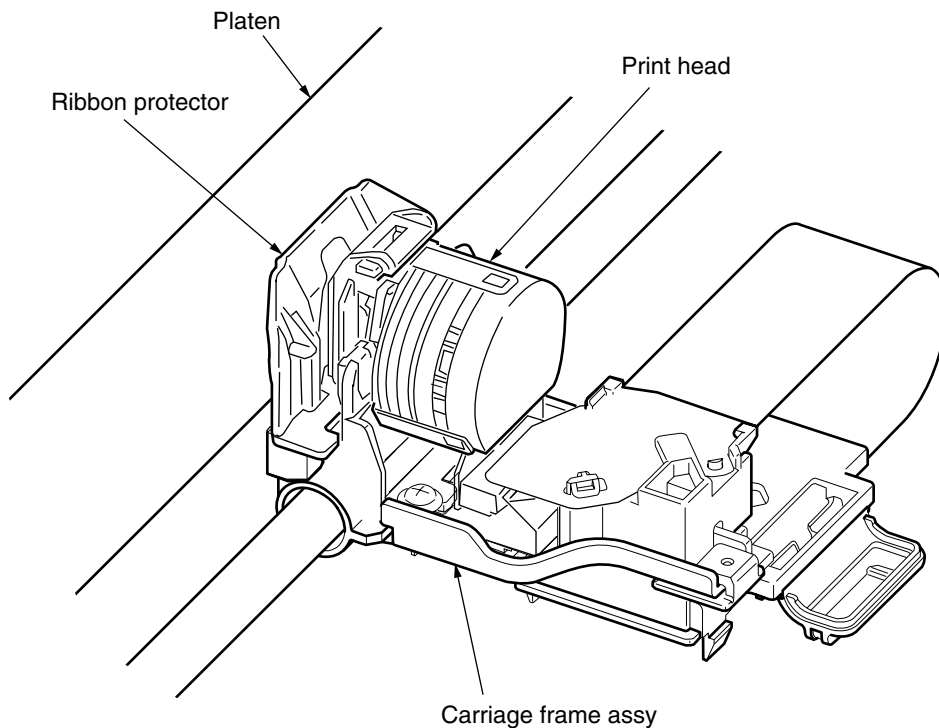

Figure 13
## (3) Top line print mechanism (See Figure 13.)